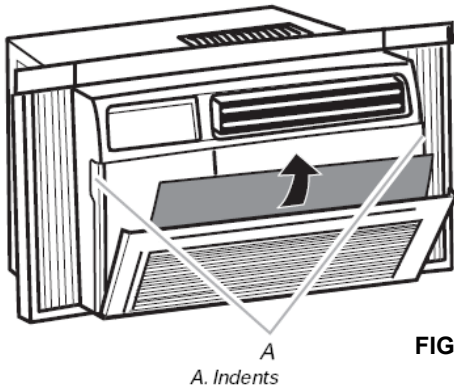

FIG. 13
1. Remove the filter by pulling down on the indents of the filter door on the front of the unit. (See FIG. 13)